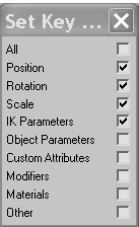

Figure 3.30
**Key Filters**—Clicking this button will open the Set Key Filters window shown in Figure 3.30. This window is where you can pick the tracks and the desired axis or axes) you want to be keyframed as you animate. This keeps your scene free of extra keyframes you may not need.